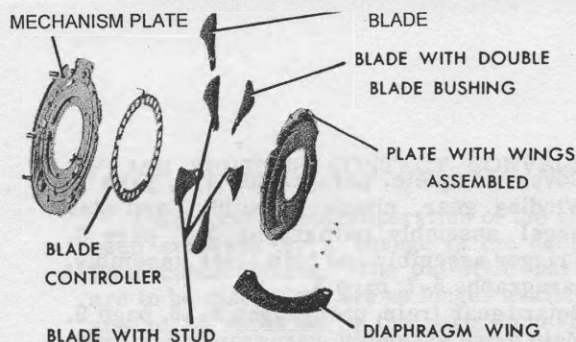

Figure 13
15. Diaphragm retainer PLATE WITH WINGS ASSEMBLED, figure 13.
4. Proceeding counterclockwise, replace four **BLADES WITH STUD**, figure 13, allowing the wide end of each blade to overlap the narrow end of the preceding blade.
BLADE CONTROLLER with contact stud, figure 13, not flat.	Straighten or replace the blade controller.
Too much play between mechanism plate and diaphragm retainer PLATE WITH WINGS ASSEMBLED, figure 13, due to retainer plate being bowed.	Replace the diaphragm retainer plate with wings assembled.